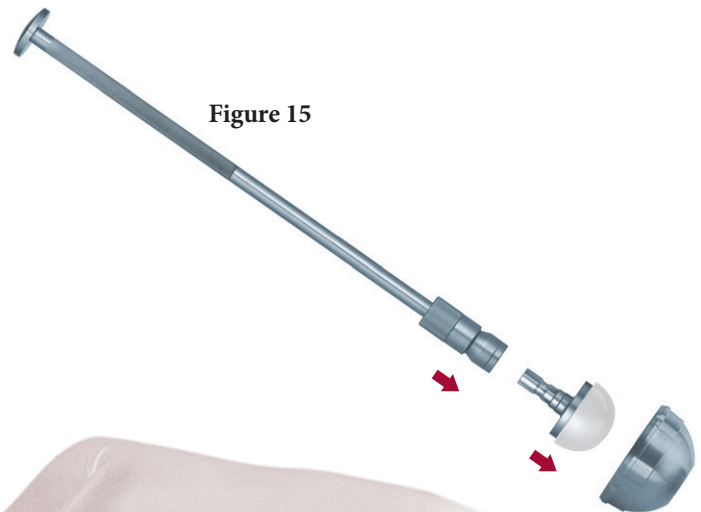

Figure 15
2. Load Silicone Insert Positioner Tip into Insert Positioner/ Impactor Handle (Figure 15).